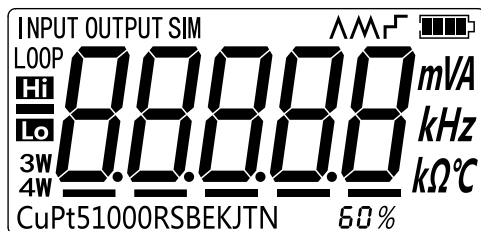

Figure 2.3-1
1. Press until the buzzer works, then the screen will display as shown in Figure 2.3-1: